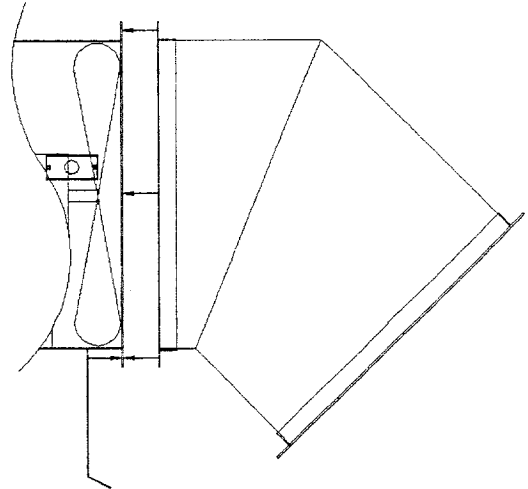

Figure 7. RFR24 Rainhood & Fan Support Installation
Step 6: Align the rainhood as shown and bolt the rainhood to the fan housing using the upper 5 holes with the 5/16" x 3/4" bin bolts and nuts. Now align the fan support bracket as shown and bolt through the final 3 holes in the rainhood through the fan housing and then to the support bracket, using three 5/16" x 1-1/4" bin bolts, nuts and 6 flat washers. Place one washer each at the head and at the nut end of each bolt. (See Figure 7.)